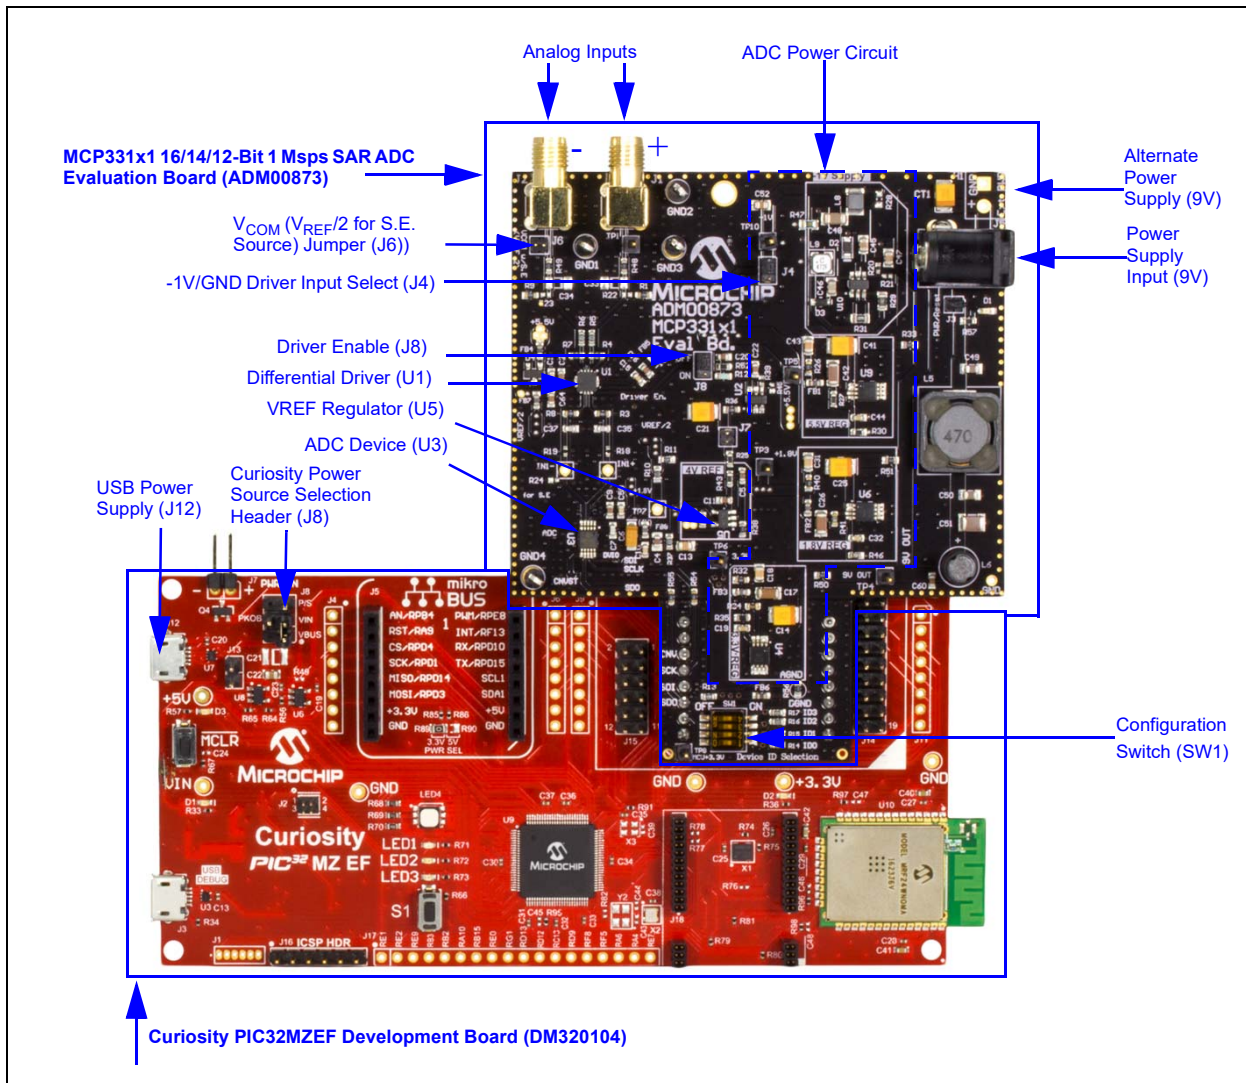

FIGURE 2-1: The MCP331x1 16/14/12-Bit 1 Msps SAR ADC Evaluation Board (ADM00873), connected to the Curiosity PIC32MZEZ Development Board (DM320104).
Each evaluation board features a 4-way SPST DIP switch (schematic designator: SW1) that allows the user to manually configure the board for a variety of available devices, as well as configure the input, resolution and speed for each device. Table 1-2 lists each available switch setting. Refer to Figure 2-1 from Chapter 2. "Installation and Operation" to view the location of SW1.
This MCP331x1 Evaluation Board comes with a 9V wall plug-in switching power supply (Trident: WSU090-2000-13). This power supply is able to provide a 9V, 2A maximum output. It can be connected to an AC wall outlet rated between 100V AC and 240V AC, at a frequency of 50 Hz to 60 Hz. The other end of the power supply is a 2.1 mm barrel plug that connects to the MCP331x1 Evaluation Board (see Figure 2-1). If the user chooses to connect a different external power supply, a minimum output of *500 mA is required*, with a voltage output between 6V-12V. There is no on-board 9V regulator, so the 9V OUT pin (TP4) will read a voltage equal to the voltage input value selected by the user.
1. Connect the MCP331x1 Evaluation Board and the Curiosity PIC32MZEZ Development Board as shown in Figure 2-1.
2. Connect the Curiosity PIC32MZEZ Development Board to a computer using a type A male-to-micro-B USB cable. In order to power the Curiosity Board through USB, the USB cable must be plugged-in to the USB connection located at J12. In addition to this, the headers located at J8 need to have the jumper connecting the V_{BUS} pin to V_{IN} . Figure 2-1 shows the component locations.
4. Connect a differential or single-ended analog input signal to the MCP331x1 Evaluation Board SMA terminals. For single-ended operation, populate jumper J6 (see Figure 2-1 for jumper location). By populating this jumper, the negative signal input will be tied to $V_{REF/2}$ (V_{COM}). Another option is to terminate the negative signal input using a 50Ω termination.